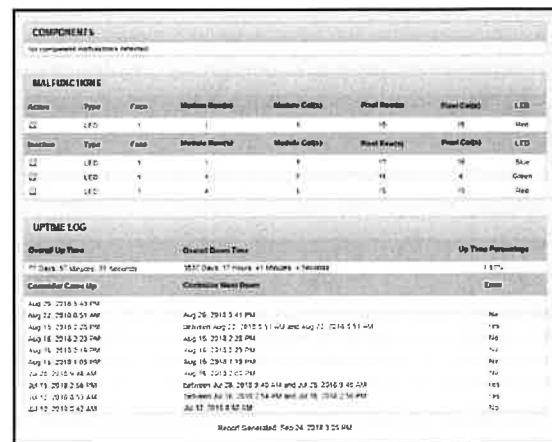

Figure 2 • Text table diagnostic display.
- Below the diagnostics report graph are text tables which display similar information (see Figure 2). View the details of these reports by clicking the + next to the error type.